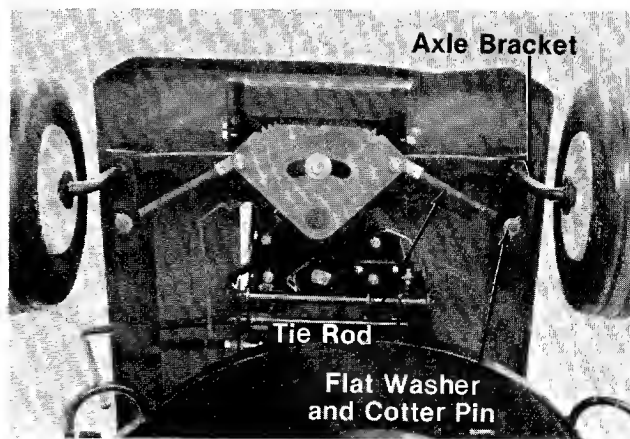

FIGURE 19.
The caster (forward slant of the king pin) and the camber (tilt of the wheels out at the top) require no adjustment. Automotive steering principles have been used to determine the caster and camber on the mower. The front wheels should toe-in 1/8 inch. See figure 19. To adjust, follow these steps:
1. Remove the cotter pin and flat washer which hold the tie rod to the axle bracket. See figure 19.